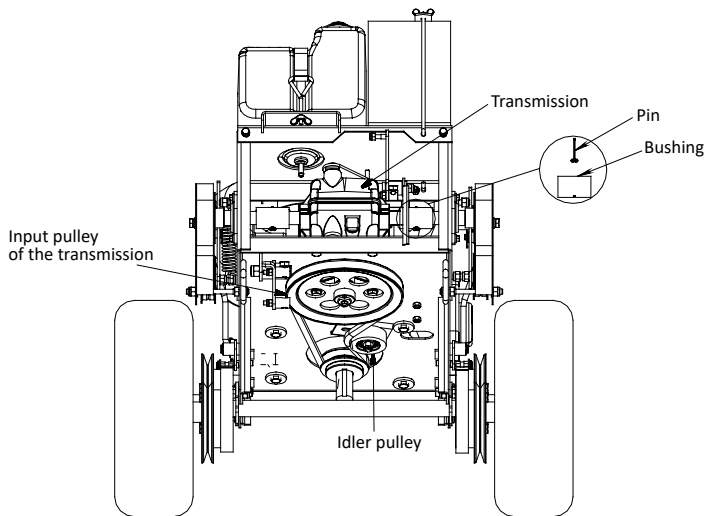

FIG 13.
- Finally, tighten the M6×16 bolts of the left and right connecting bearing and the hex bolts of the inner shaft. (See FIG 13)